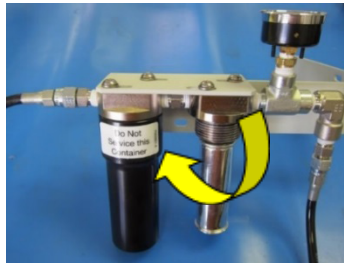

Figure 24: Desiccant Filter Cartridge Removal
3. Remove the desiccant filter cartridge by rotating it counter-clockwise using hand force only. Refer to Figure 24 below.